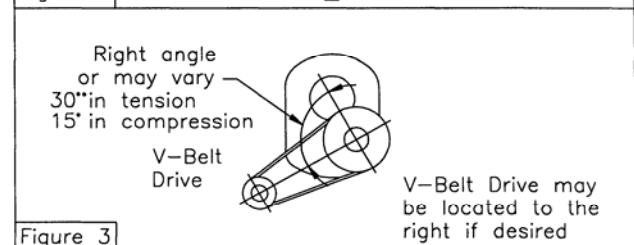

Figure 3
5. Install motor and V-belt drive so belt will approximately be at right angles to the center line between driven and input shaft. (See Fig. 3) This will permit tightening the V-belt with the torque arm.